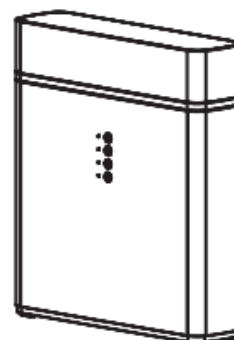

Fig. 6
5. As a final step, attach the plastic cover (Figure 6).